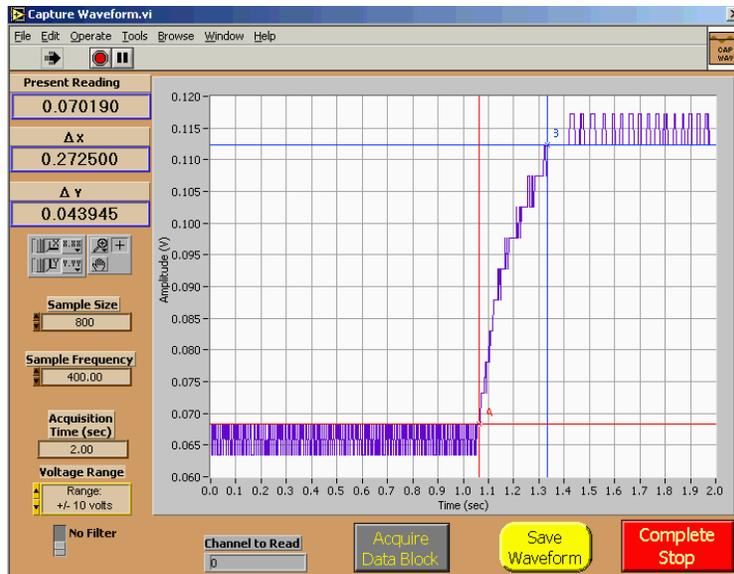

Figure 4. Example thermocouple response curve captured by LabVIEW
- d. Initial settings for this VI need to include: Voltage Range: $\pm 10\text{V}$, Channel to Read: 0, and No Filter (should be default settings). Set the sample size (N) to 800. Set the Sample Frequency (f_s) to 400 Hz (nothing special about the chosen N or f_s). To clear the graph at any time, right-click on the graph and select Data Operations, then Clear Graph.
11. You are now ready to measure the time constant. You will do this using the graph displayed in Fig. 4. Note the two pointers (cross-hair lines) on your VI (labeled 'A' and 'B'). Set pointer A just after the start of the rising edge of the waveform. Set pointer 'B' at a voltage where the curve has flattened (steady-state conditions appear to have developed). Note the behavior of the pointers as you move them around.